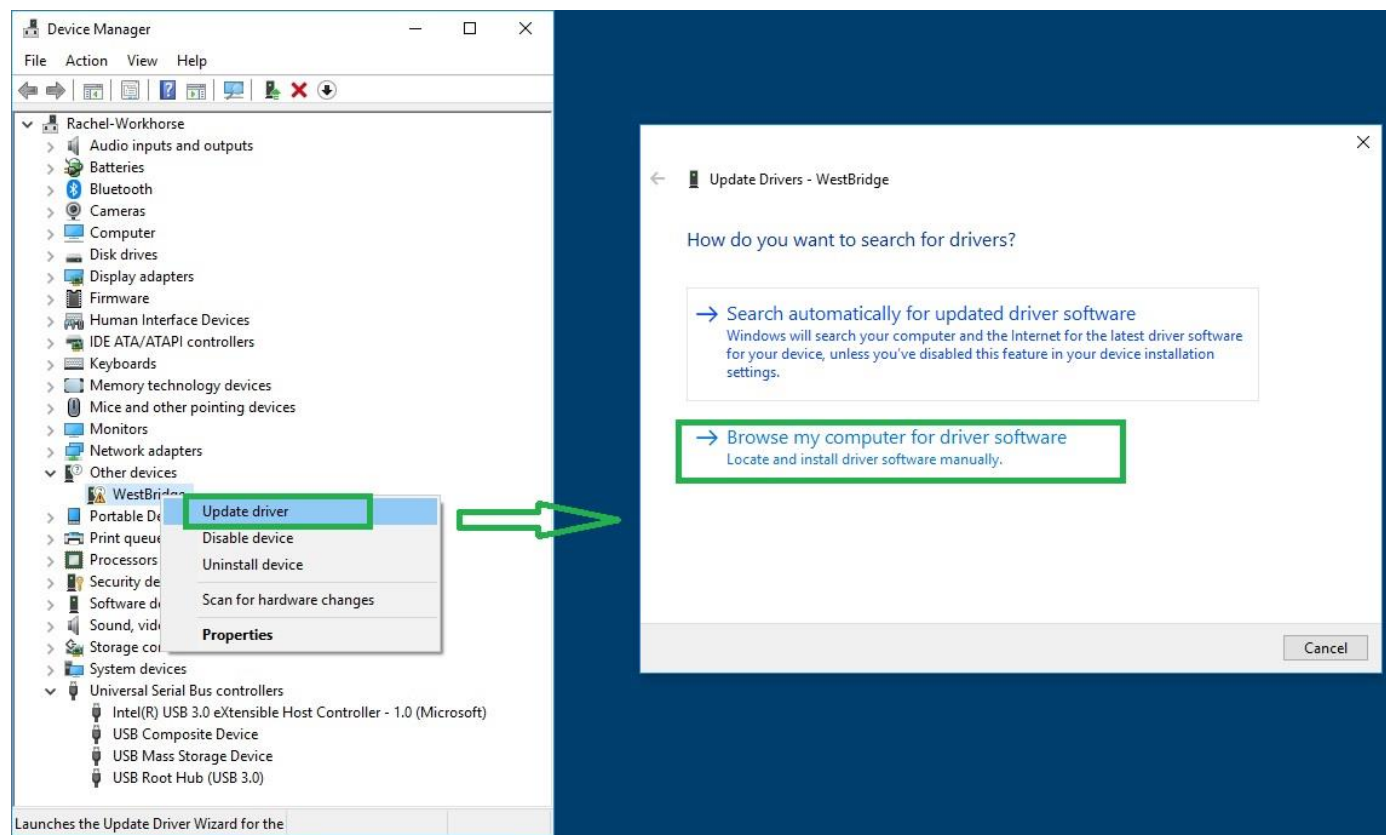

Figure 5: ADC256 driver installation. Step 1.
4. Find a new device in Device manager, Figure 5. Device will be originally recognized as *Other devices*/*WestBridge* with yellow triangle indicating driver error. If driver was preinstalled or another driver was found on the computer, uninstall all previously installed drivers as described in